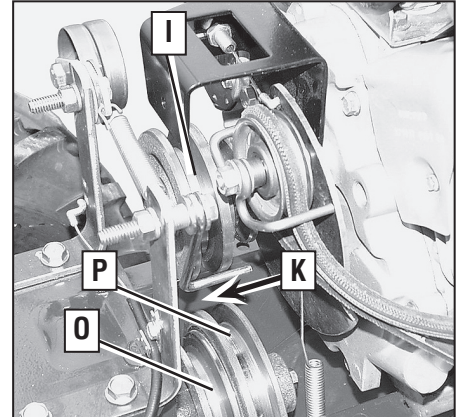
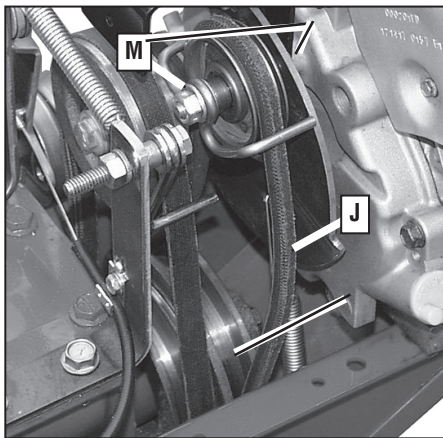

Figure 5-20: Arrow (K) shows insertion point for installing new forward clutch belt.
Figure 5-22: Right-side view.
3. From the front of tiller, insert the forward clutch belt in between the bottom of the engine drive pulley (I) and the top of transmission pulley (K, Figure 5-20).
6. Reinstall the reverse clutch belt. Insert the bottom of the belt into the frame, then pull down on the belt and roll it onto the large, forward-most groove of the transmission pulley (P, Figure 5-20).
The reverse clutch belt (J, Figure 5-22) is driven by the engine drive pulley (I, Figure 5-20). When the Reverse Clutch Control knob is pulled out, it pulls the reverse idler arm and pulley (N) which tightens the belt against the engine drive pulley. This drives the transmission drive pulley (L), resulting in reverse motion.
(L, Figure 5-22).
4. Use two 1/2" wrenches to loosen and remove wire belt guide (R, Figure 5-22) from the reverse idler arm pulley. Do not remove locknut and screw.
IMPORTANT: The reverse belt has a 'V' shape. When installing the belt, make sure that the widest (flat) side of the belt rides against the reverse idler pulley (N, Figure 5-22) and transmission pulley (L). If needed, the belt can be twisted "inside out" so that the "V" shaped side is on the outside and the widest side is on the inside.
3. Insert the belt down into the front of the transmission housing. Slip the top half of the belt onto the reverse idler arm pulley (N).
4. Pull the belt downward and loop the bottom half of belt around the front groove of transmission pulley (L, Figure 5-22).
and lock nut (M, Figure 5-22).